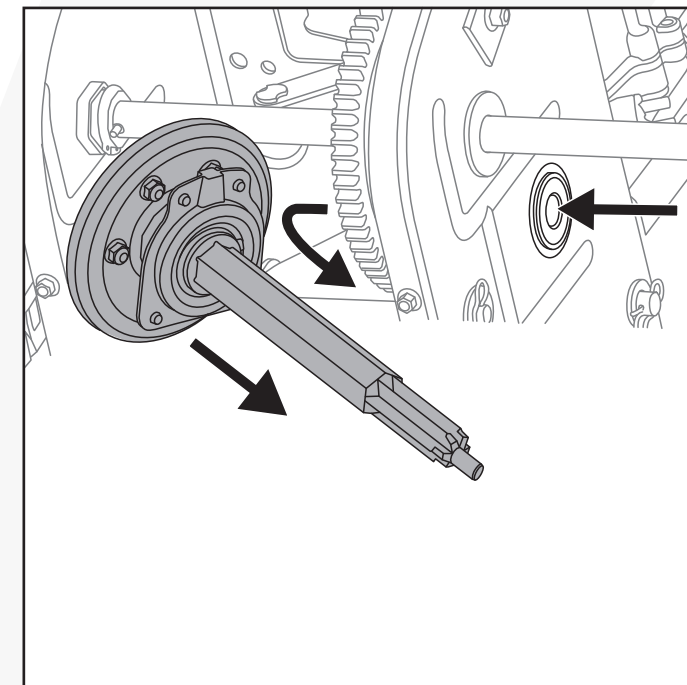

Fig. 20C
8. Pull the shaft's left end to slip off the existing friction disc. (Fig. 20C)